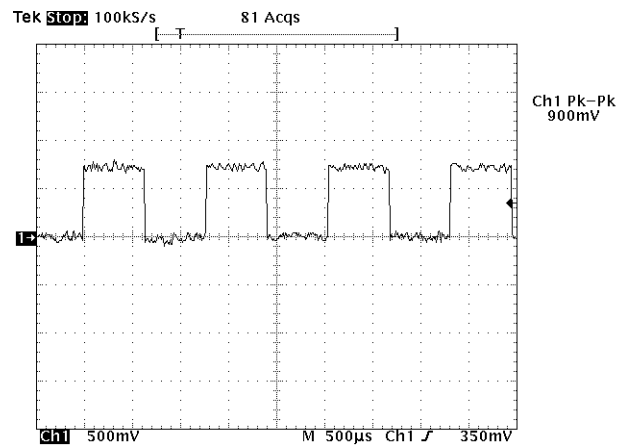

Figure 6-10: TP-8
7. Check for a 900 mV_{p-p} (approximate) @ 784 Hz signal at TP-8 (as in Figure 6-10) while power supply “A” is on.